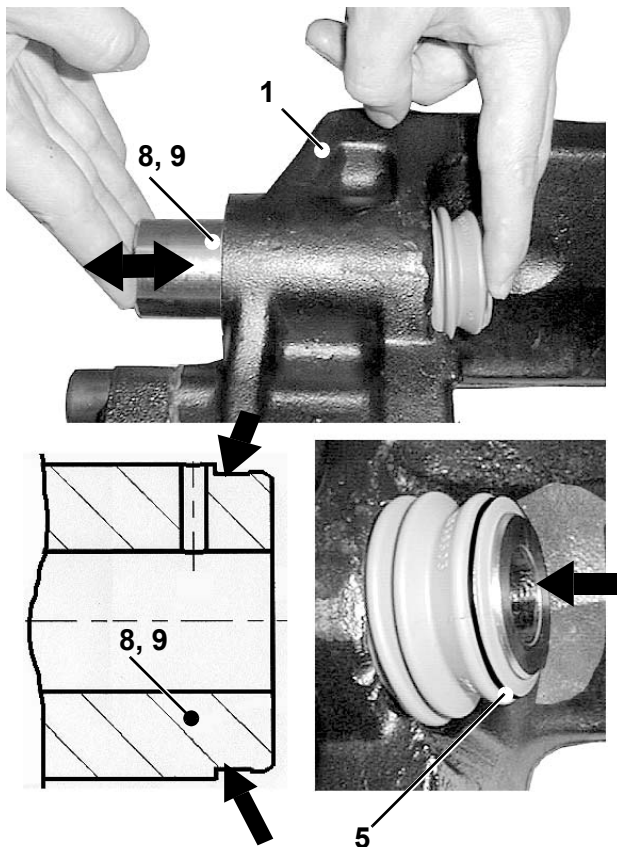

Fig. 44
- Grease the sliding surfaces of the guide pins (8, 9) and the inner lip of the gaiters (5).
- Insert the **new** guide pins from the cylinder side into the calliper (1), and
- push gaiter (5) against its guide pin seat (8, 9).
- Move guide pins backwards and forwards as shown in figure 44 several times. Check for ease of movement.
Do not lose the metal-ring on gaiter (5) and check for proper seat (right side in fig. 44)!